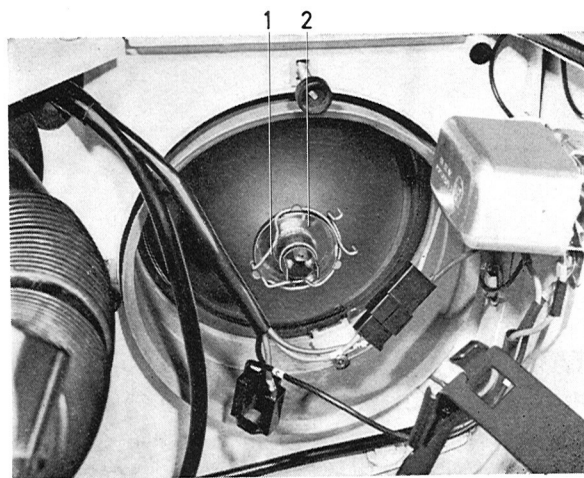

Fig. 3-109. Headlight, rear side
2. Compress and remove the spring (1, Fig. 3-109) holding the bulb to the insert and take out the bulb.